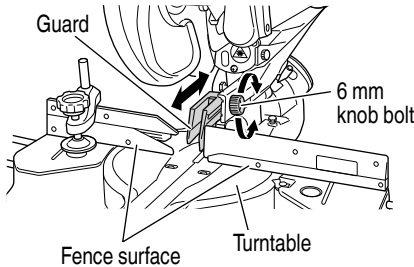

Fig. 21
7. Adjusting the guard (Fig. 21)
In some arrangements when the turntable is rotated, the guard projects from the fence surface. Loosen the 6 mm knob bolt and push the guard to the retracted position. Never lift the lower guard while the saw blade is rotating. When cutting at an angle of 45° to the right or more, please slide the guard to the rear. (Fig. 21)